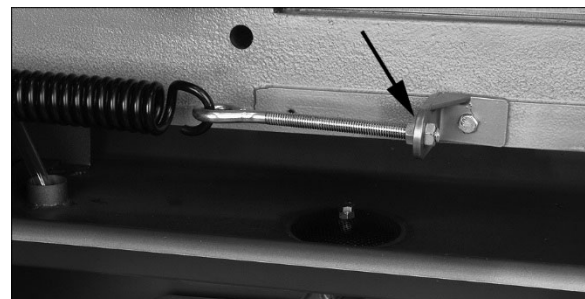

Figure 8-13: feed pressure adjustment
- If adjustment is needed, loosen one nut and tighten the other (Figure 8-13) on eye bolt, until scale indicates 5 to 6 kg (11-13 lb).